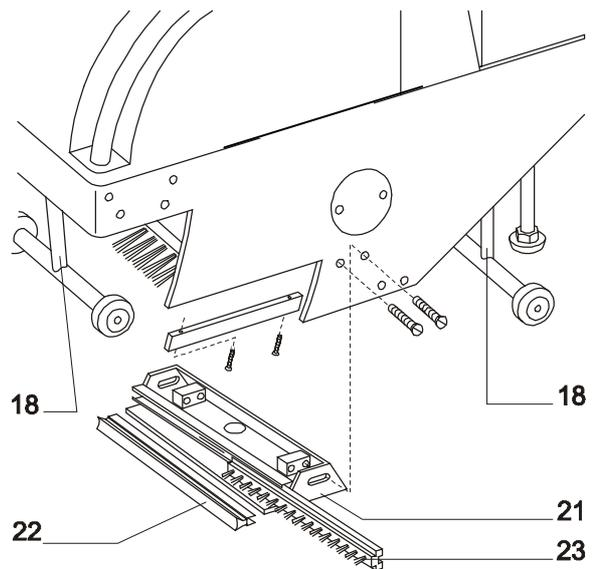
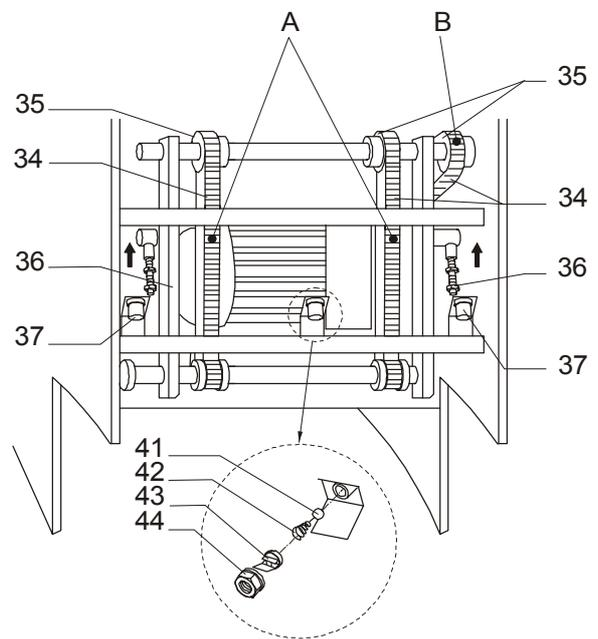

Fig. 22: Suction basin / seal strip
Fig. 24: Chain drive / spray nozzles
- Clean and lightly lubricate the extended lifting spindles (18).
- Check seal strips (22) and renew if necessary (Fig. 22: Suction basin / ).
- Remove suction basin (21) and stripping brush (23) and rinse (Fig. 22: Suction basin / seal strip)
- Check chains (34) for correct tension and, if necessary, tighten with chain adjuster (36) (see Chapter 4.6.1 Tightening the chain and Fig. 24: Chain drive / spray nozzles on page 21).
- Clean chains (34) and treat with a chain spray (15).
- Check spray nozzles (37) and clean if necessary.
- Check glide rails (28) on the right and the left. Replace if showing signs of wear (Fig. 22: Suction basin / ).
- Check seal strip (22) and renew if necessary (Fig. 22: Suction basin / ).
- Maintenance work in this case should be carried out as after 30 service hours, but here the chains (34) and chain wheels (35) must be checked for wear and replaced if required (see Fig. 24: Chain drive / spray nozzles).
(see Fig. 24: Chain drive / spray nozzles)
(see Fig. 24: Chain drive / spray nozzles on page 21)